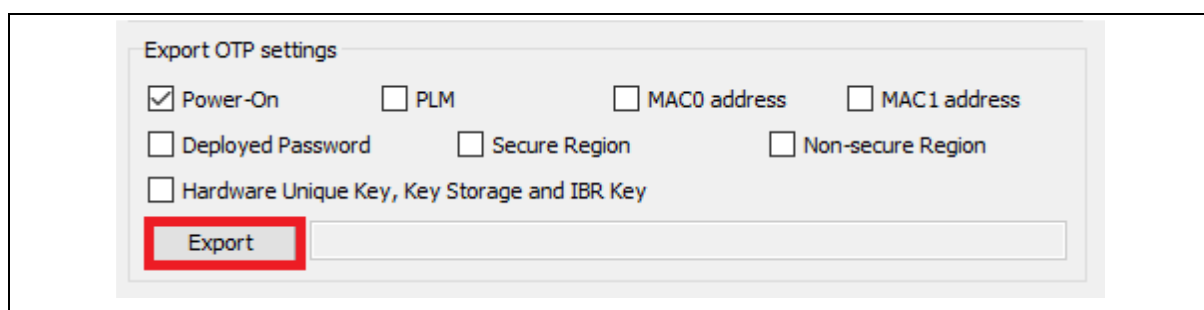

Figure 7-16 OTP Export
3. Select “Export OTP settings” to generate otp.json. Figure 7-16